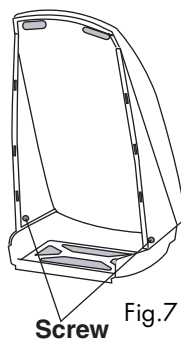

Fig.7
- 3) Fit the front panel assembly to the base plate by fixing the two screws (removed previously) through the aligned screw holes (holes D and A) (fig.7).